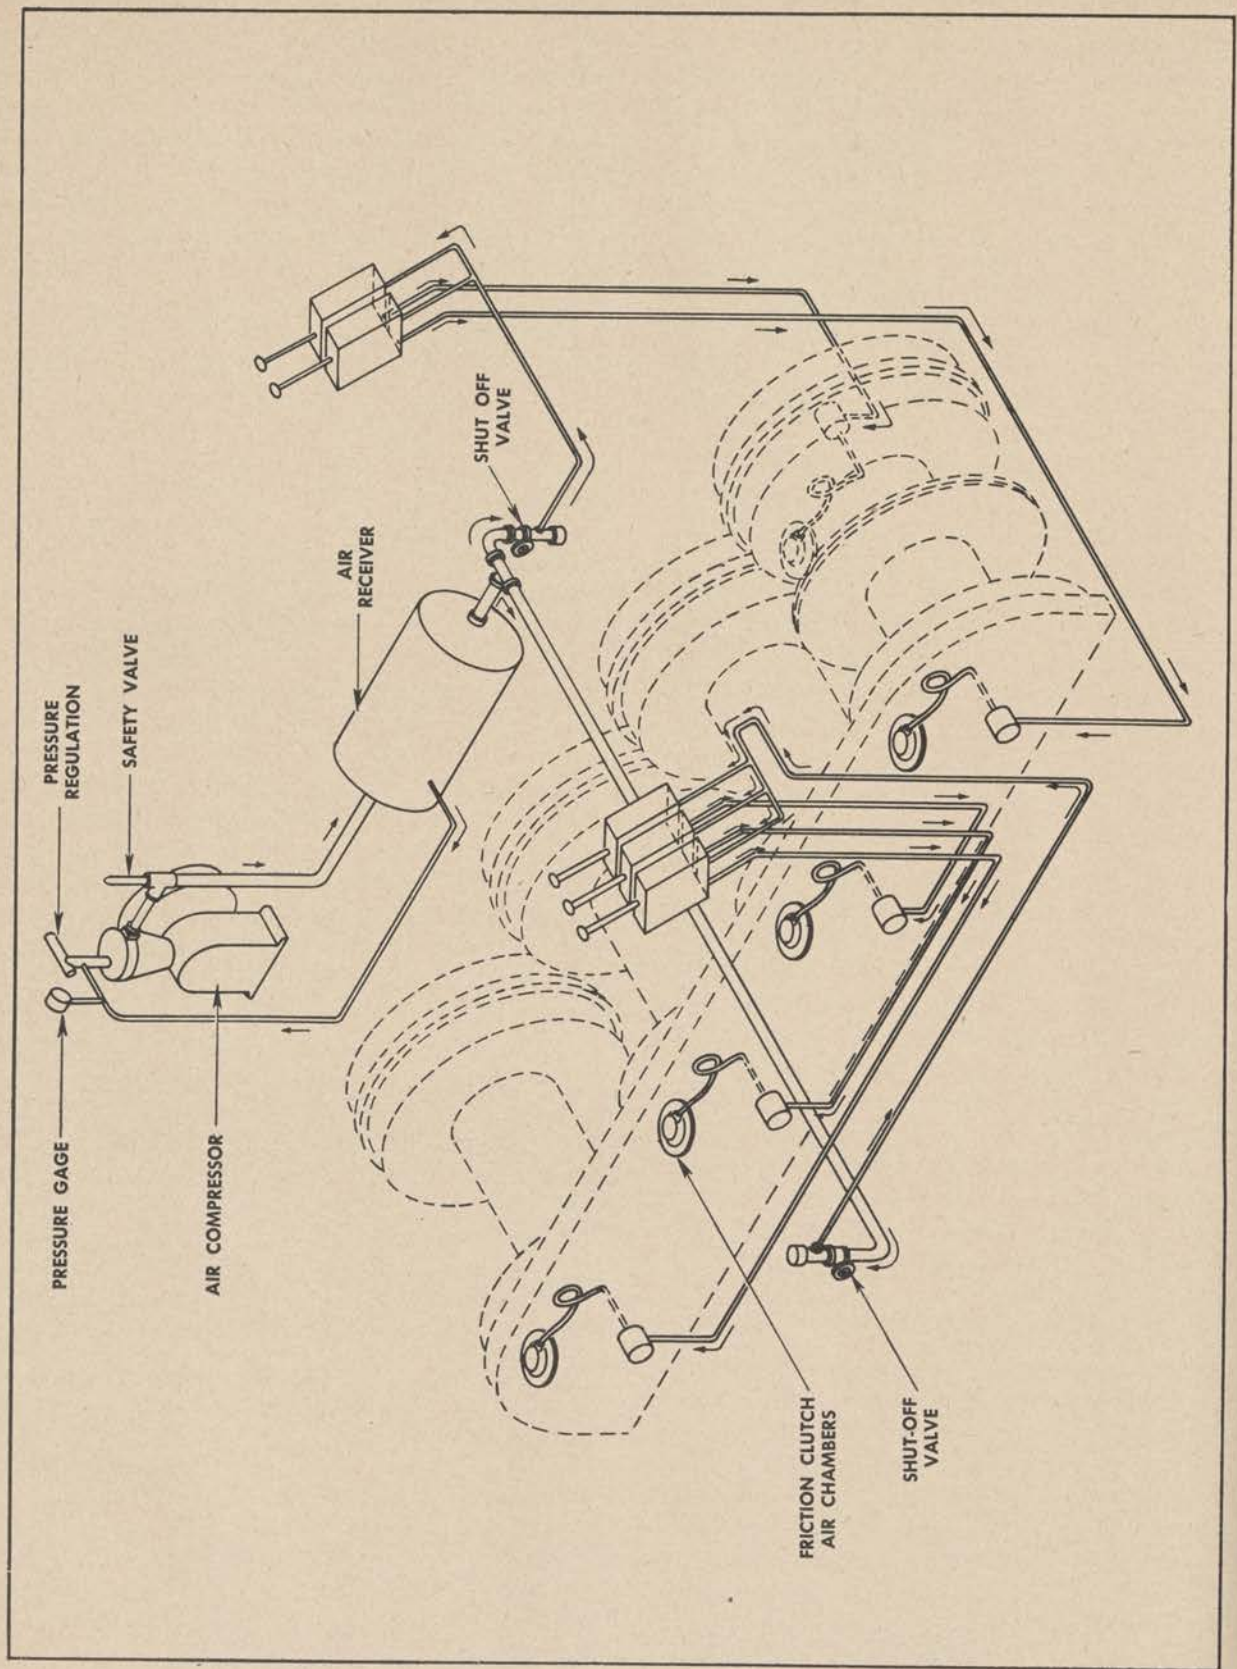

Figure 257. Air control system for hoist friction clutches.
48. Air Control System (fig. 257)
b. AIR CONTROL VALVES. (1) *Cleaning.* Should the small internal air valve ports and valve seats become clogged with grease or dirt, the valve will not function properly and must be cleaned. Remove defective valve and replace it.